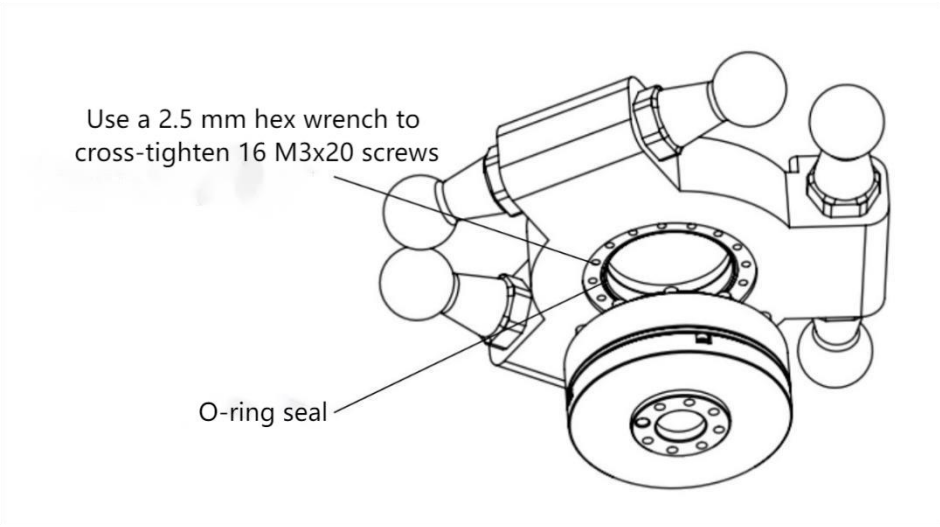

Figure 3-29 Shows the direction of the top screw of the reducer
Step 6 Install the reducer into the moving platform as shown in Figure 3-29; pay attention to the O-ring seal, cross lock 16 M3x20 screws with a locking torque of 2.5N·m, and apply thread glue when locking the screws.